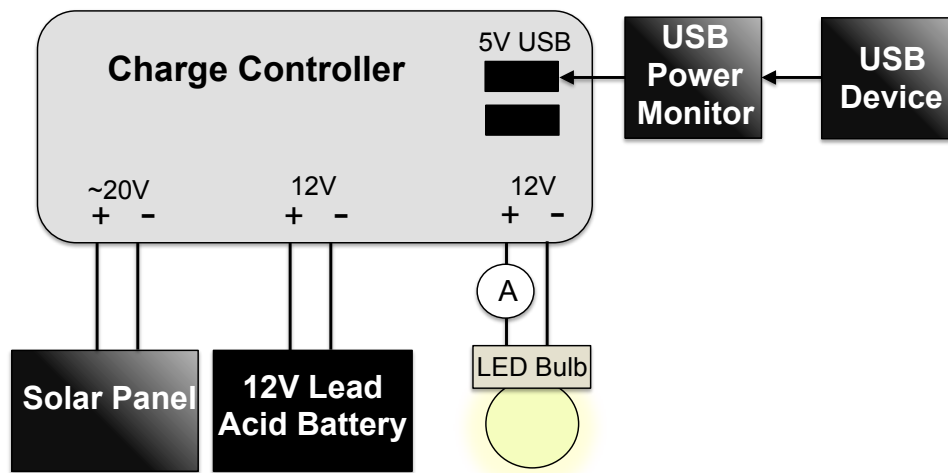

Figure 1: A schematic of the Solar Microgrid.
This week, you will create your own “Solar Microgrid”. The microgrid consists of the solar panel, a 12V lead acid battery, and a charge controller, as shown below in Figure 1. Solar panels obviously do not produce energy at night, so the 12V battery is used to store energy produced during the day. Directly connecting ~20V DC output of the solar panel to charge the 12V battery would damage it, so the charge controller is used to step down the 20V DC to 12V DC. Additionally, the charge controller contains two 5V USB outputs for charging and powering various consumer electronics.
1. Sketch the schematic shown in Figure 1 in your lab notebook.
- b. Locate the handheld DMM with mini-grabber cables in the 10A socket. Connect the other on of the DMM cables to the wire in the charge controller and the other DMM cable to the red light bulb wire, such that the DMM **in series** with the LED bulb, as shown in Figure 1.